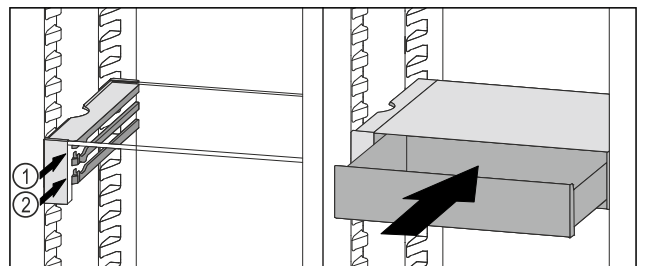

Fig. 91
- Place the VarioSafe drawer behind the stoppers on desired rib Fig. 91 (1) or Fig. 91 (2).